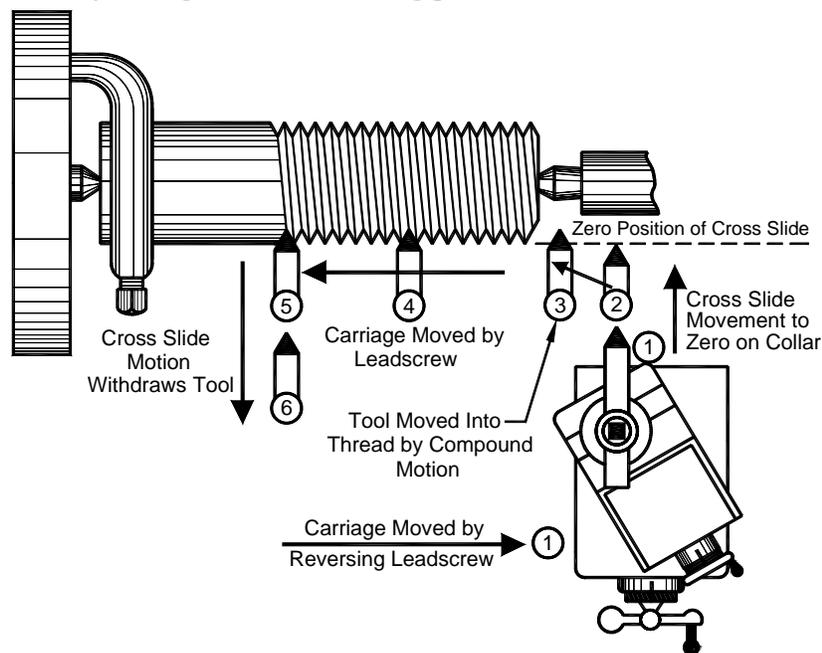

Figure 7–140. Completing the threading process.
17. Manually move the carriage to Position 1 as in Figure 7–140. Then, using the collar calibrations, move the cross slide to the zero position, Position 2. With the compound, advance the tool bit in preparation for the next thread cut, Position 3. Use Table 7–9 as a rough guide for the depth of each pass. The idea is to use cross slide motion to pull the tool away from the workpiece at the end of the thread and move the tool back to the zero position for the next pass. Once the compound collar has been set to zero, the compound is incremented for each pass and is never used to pull the tool away from the work.
19. Tables in *Machinery's Handbook* show the final thread depth for all common thread forms. This depth can be read off the compound collar and can be checked using a threading micrometer. Also, inch thread center gages have the thread depth for various tpi engraved on them. See Figure 7–132. Not having this information at hand, the operator can watch the thread develop until the width at the thread bottom (root) just about equals